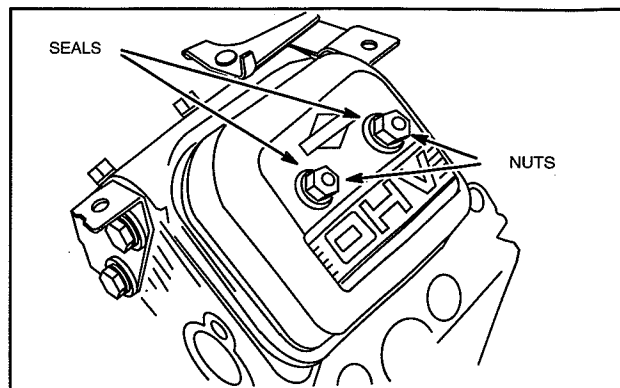

Fig. 18 – Install Valve Covers
3. Install valve covers with new gaskets and valve cover seals, Fig. 18.